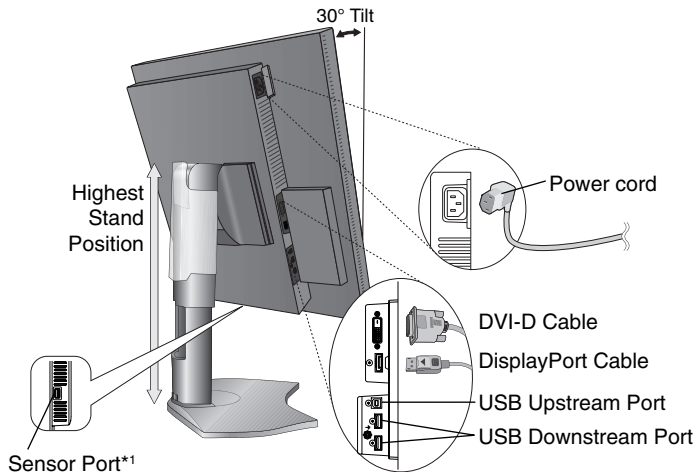
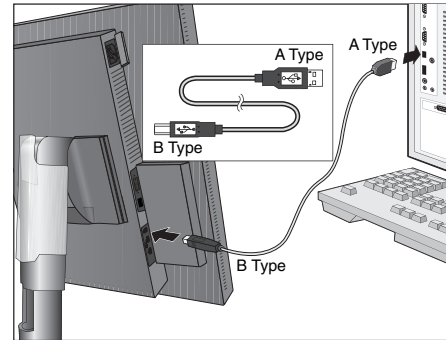

Figure C.1
Figure C.1a
4. Connect all cables to the appropriate connectors (**Figure C.1**). When using the USB cable, connect the B type connector to the USB upstream port on the right back side of the monitor and the A type connector to the USB 2.0 downstream port on the computer (**Figure C.1a**). If using the cord from a USB device, plug into one of the downstream ports of the monitor.